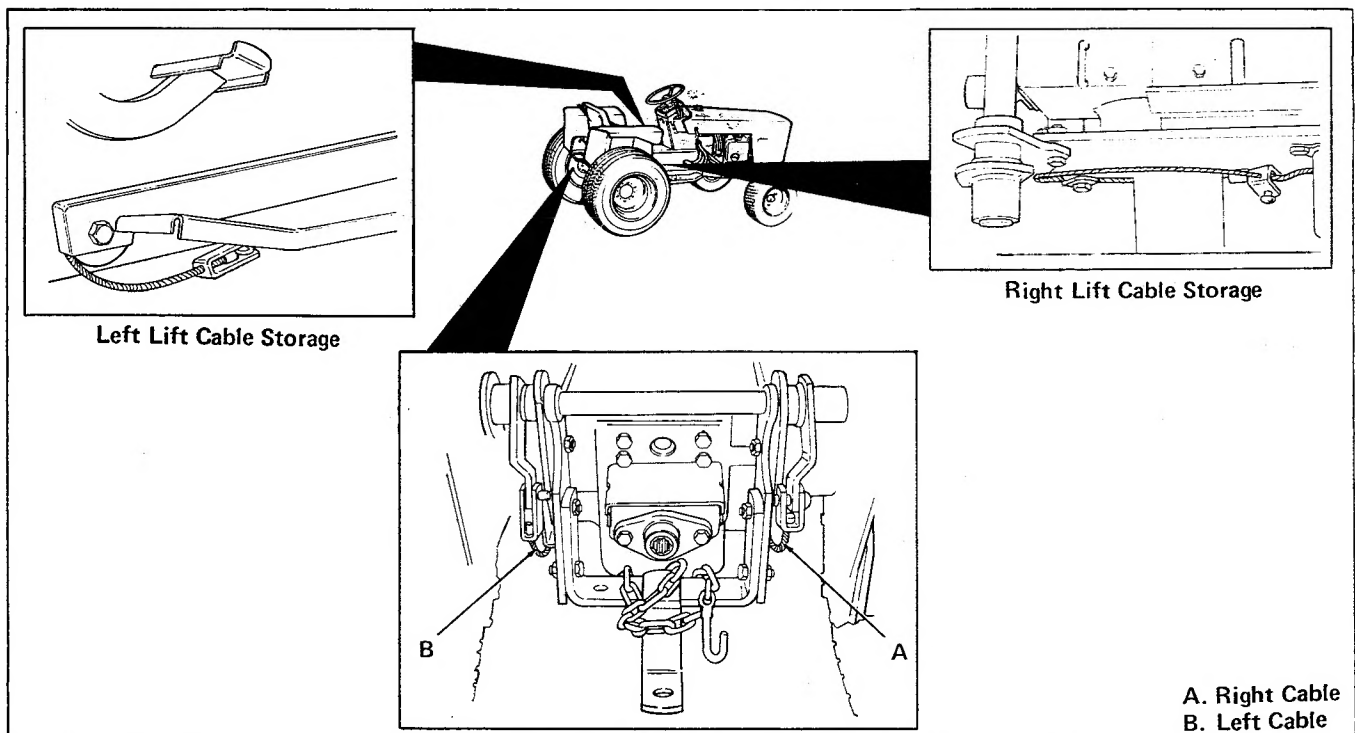

Figure 11. Cable Removal and Storage
9. Remove and store right lift cable (item A, figure 11) and left cable (item B).
3. Remove spring clip and pin (item D) and remove transport chain from mower. Store chain away from mower or wrap and tie chain around tractor drawbar. (See Figure 11).